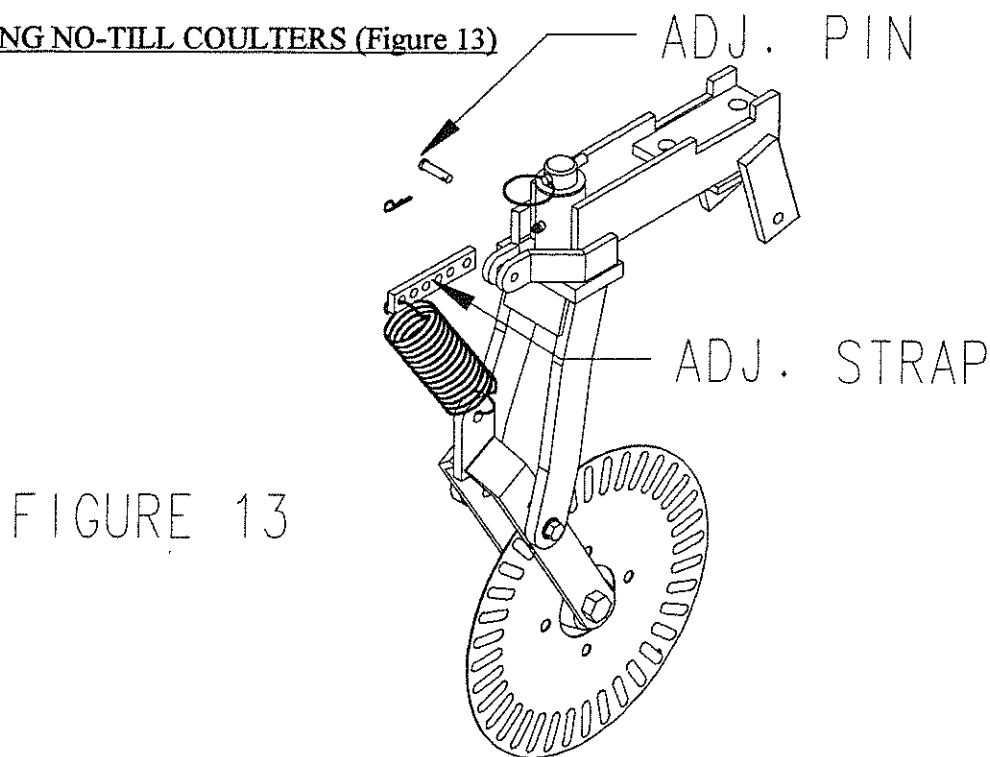

FIGURE 13
SETTING NO-TILL COULTERS (Figure 13)
2. Place the adjusting pin in the second hole from the end of the adjustment strap as shown in Figure 13. This should be suitable for most conditions.